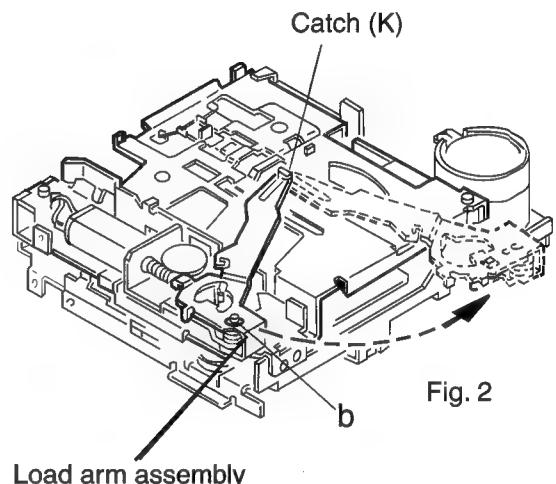

Fig. 2
2. Push and open the right and left open/close shaft arms outward to remove the shaft.(See fig 2)
■ Removing the Load Arm Assembly (See Fig. 2)
3. Remove the load arm assembly from the catch (K).